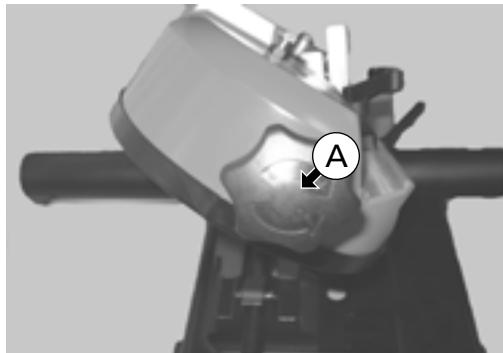

Fig. 25
Rotate the knob (A) - (Fig. 25) clockwise to tighten the blade on the wheels. Do not over-tighten.
Elements of Fig. 25 -